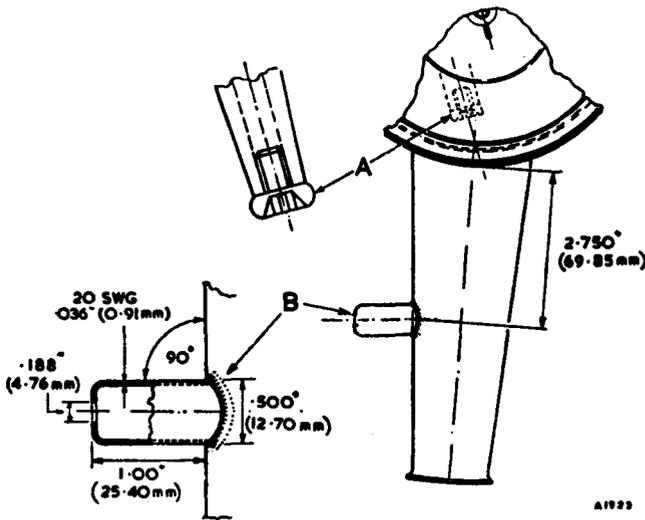

Fig. BBB.3
Remove the pipe between the rocker cover and the air cleaner elbow, and plug connection (A) with a screw (Fig. BBB.3). A suitable screw is PMZ 0406  $\frac{1}{2}$  in.  $\times$   $\frac{3}{8}$  in. UNF. pan head.
Drill a  $\frac{11}{16}$  in. (13.49 mm.) dia. hole in the air cleaner intake at the position (B) (Fig. BBB.3), make a restricted inlet nozzle of 20 S.W.G. (9.10 mm.) material to the dimensions shown, and silver-solder into the hole. Cut off the original rubber breather pipe to the requisite length and refit it between the rocker cover and the nozzle (B).